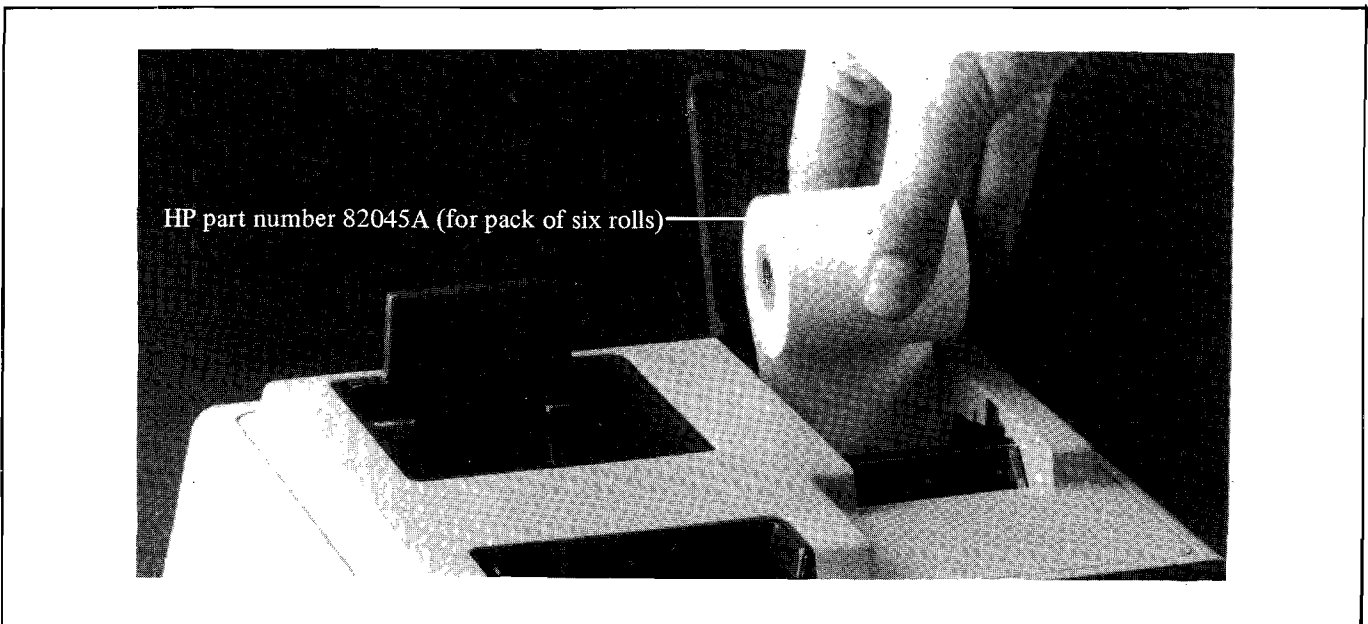

Figure 17-3 Printer Paper Renewal
- 4) Hold the new roll with the loose end underneath. Press the loose end into the printer slot (see figure 17-3) the paper will automatically feed through and then stop.